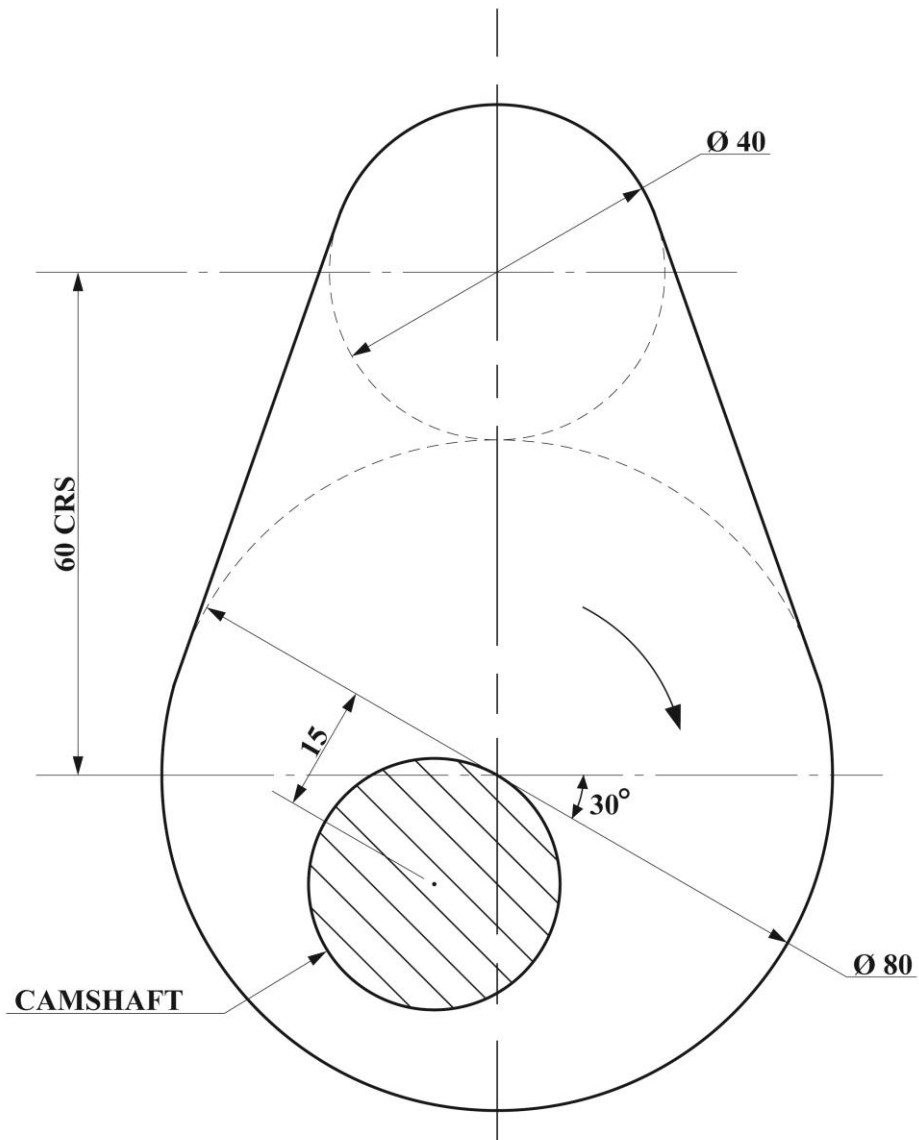

Figure 2. Plate cam
2. Figure 2 shows a plate cam with its camshaft clearly identified.
- (a) Reproduce the cam shown in Figure 2. **[4 marks]**